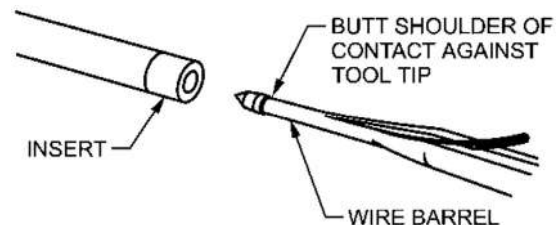

Figure 4-43 Contact Insertion in Removable Contact Wire Splices
- a. Hold the coloured half of the appropriate insertion/removal tool between the thumb and forefinger and lay the wire to be inserted along the slot, leaving about 12.7mm of wire protruding. Then snap the wire into the tool. (See Figure 4-43)